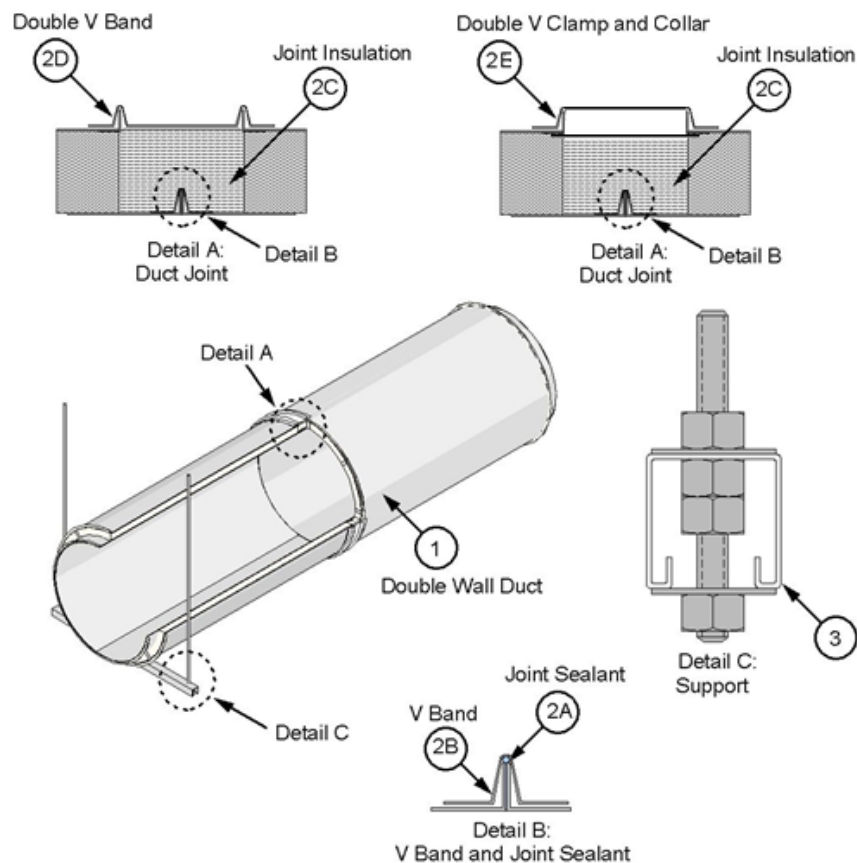

Figure 1. Double Wall Duct and Horizontal Support
- B. **V BAND** – Use the supplied V band (see Figure 1). Place the loose V band, filled with joint sealant (Item 2A), over one of the inner duct flanges. Join to the other inner duct flange with the continuous bead of joint sealant (Item 2A) and rotate slightly to ensure complete coverage of joint sealant (Item 2A) on flanges. Ensure that the flanges are located within the V band and that the V band hardware is not at the bottom side of a horizontal duct. Tap the V band while tightening the integral 1/4-20 hardware to ensure flanges are aligned and pulled together. Tighten to 40-60 in.lbs.
- D. **DOUBLE V BAND** – Use the supplied double V band (see Figure 1) for grease duct diameters ≤ 24 in. Place double V band with the grease duct outer shell flanges seated in the V band; tighten integral 1/4-20 hardware to 40-60 in.lbs.
- E. **DOUBLE V CLAMP AND COLLAR** – Use the supplied double V clamp and collar (see Figure 1) for grease duct diameters > 24-in. Use the sheet metal collar to retain the joint insulation; overlap collar ends and fasten together with min. two min. size #6 sheet metal screws. Place double V clamp with the grease duct outer shell flanges seated within the clamp recess; tighten integral 1/4-20 hardware to 40-60 in.lbs.
and two min. 1/2 in. diameter, threaded steel rods connected using Grade 5 hex nuts and 1/2 in. hardened washers (see Figure 1, Detail C). For grease duct diameters > 24 in., use supplied 12 GA steel saddles fastened to the Unistrut® channels with supplied 5/16-18 hardware. Connect the threaded steel rods to the bottom of the floor assembly using an attachment method designed to carry the weight of the pre-fabricated grease duct (Item 1) under a fire load equivalent to ASTM E 119 time-temperature curve for a 2 hour period. Place one threaded steel rod at each end of the supporting cross-member. Center the pre-fabricated grease duct (Item 1) on the cross-member. Space the threaded steel rods a max. of 8 in. from surface of the pre-fabricated grease duct (Item 1). Cut the cross-members such that each extends a min. 1-1/2 in. past the threaded steel rods. Space horizontal supports a max. of 84 in. on center (oc) for ducts with nominal diameter ≤ 16 in., and a max. of 60 in. oc for nominal 18 in. to 36 in. diameter ducts.